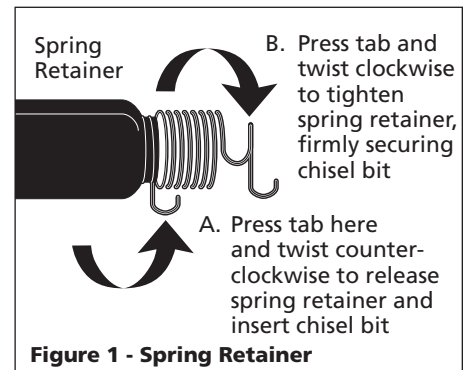

Figure 1 - Spring Retainer
The spring retainer holds the hammer in place. The retainer must be **securely** attached (See Figure 1). The retainer is a normal wear item and should be replaced when worn. Replace with MP2896 (2) piece hammer spring set. The retainer unscrews for easy hammer insertion.